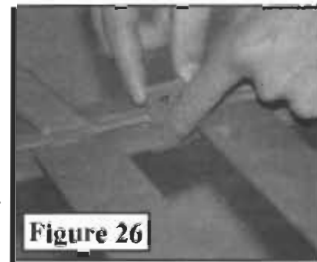

Figure 26
Foot Rest To attach the footrest to the platform, first determine that all hardware is available. Included should be two (2) z-shaped brackets, two (2) 1/4-20 x 1 1/2" long hex cap screws, two (2) 1/4-20 locknuts, two (2) rubber bumpers, four (4) sheet metal screws, and six (6) plastic flanged bushings. Insert the z-shaped brackets into the treestand perimeter as shown in **Figure 26**. Secure them with two #8 x 1/2" self-drilling Teks screws (one screw per side) as shown in **Figure 27**. Insert two of the plastic flanged bushings into each side of the two holes in the two ends of the footrest. Insert the remaining two